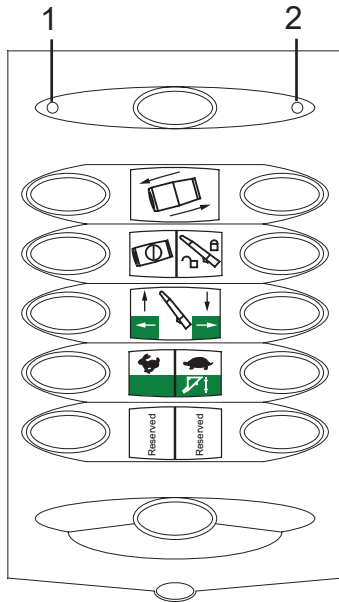

Figure 156
1. The Battery Low (Figure 156, Item 1) and Active (Figure 156, Item 2) LED indicators on the transmitter are used to indicate the status of the transmitter (transmitter for Traditional Controls used for illustrative purposes).